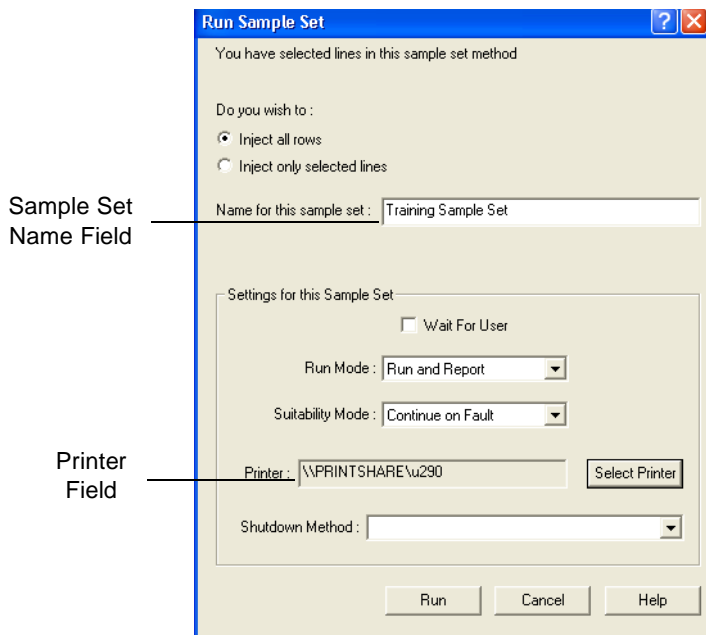

Figure 5-15 Run Sample Set Dialog Box
8. Select **Inject > Run Sample Set** to begin the acquisition process. The Run Sample Set dialog box appears (Figure 5-15).